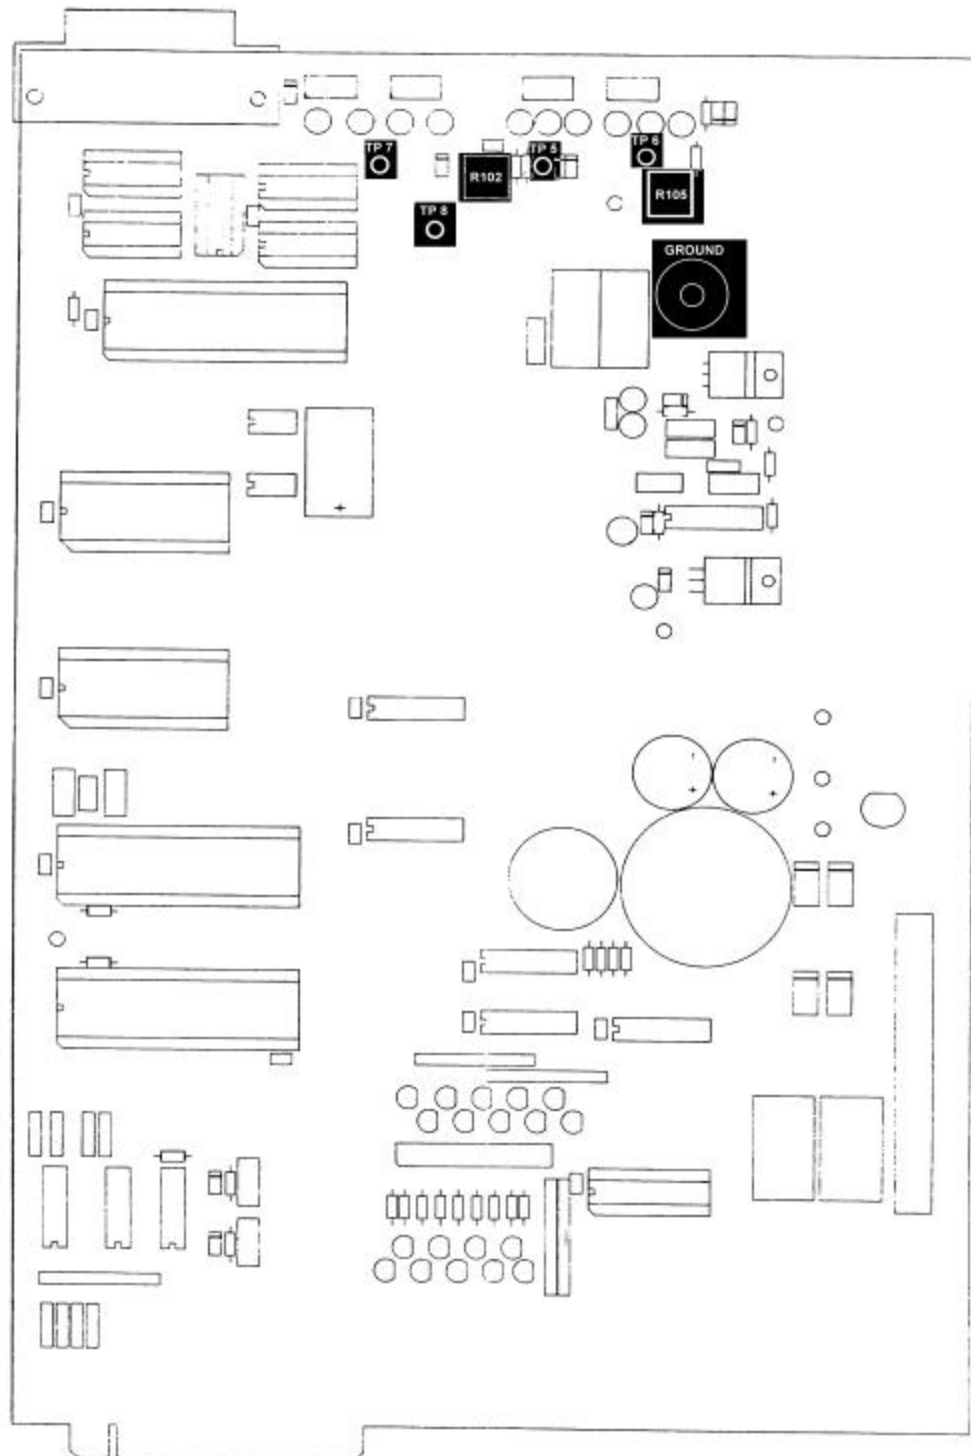

Figure 1. Microprocessor card.
- a. Connect digital multimeter to microprocessor card TP 6 and card ground (fig. 1).
- b. Adjust R105 (fig. 1), located to the left of the rear panel **CH 1 INPUT BNC** connector, for digital multimeter indication of $-15\text{ V} \pm 0.05\text{ V}$.
- c. Connect digital multimeter to microprocessor card TP 5 and card ground (fig. 1).
- d. Adjust R102 (fig. 1) for digital multimeter indication of $+15\text{ V} \pm 0.05\text{ V}$.
- e. Connect digital multimeter to microprocessor card TP 7 and TP 8 individually, and card ground (fig. 1).